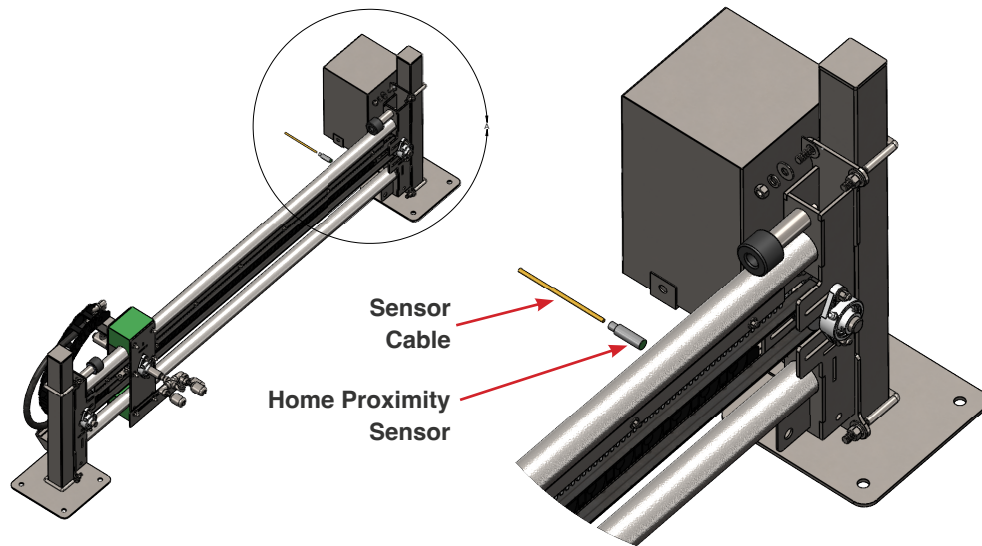

Fig. 7.2.3 - 1 - Home proximity sensor
3. Unscrew the sensor cable from the back of the home proximity sensor to minimize the chances of damaging the connection (Fig. 7.2.3 - 1, following page).